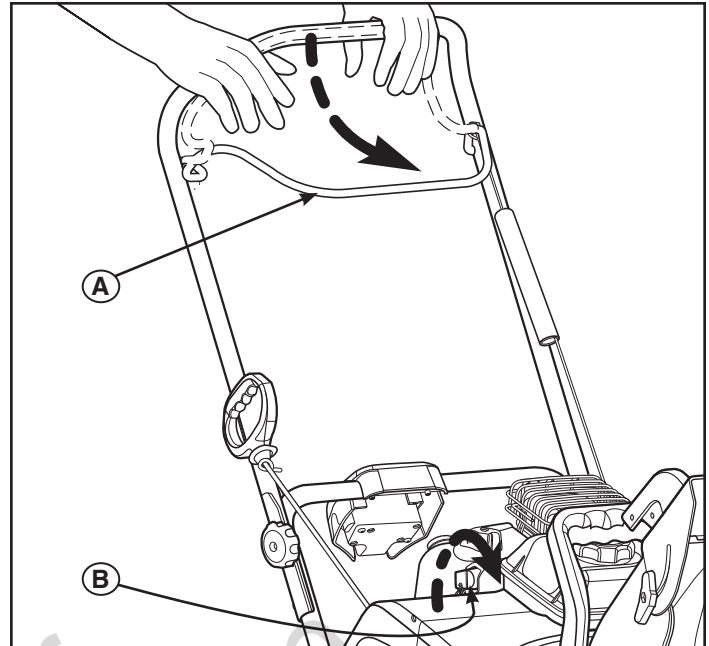

Figure 9
1. Release the auger control (A, Figure 9).
2. Turn the ON/OFF switch (B) to the OFF position and remove or pull out PUSH/PULL key.
1. Start unit and engage auger control (A, Figure 9).